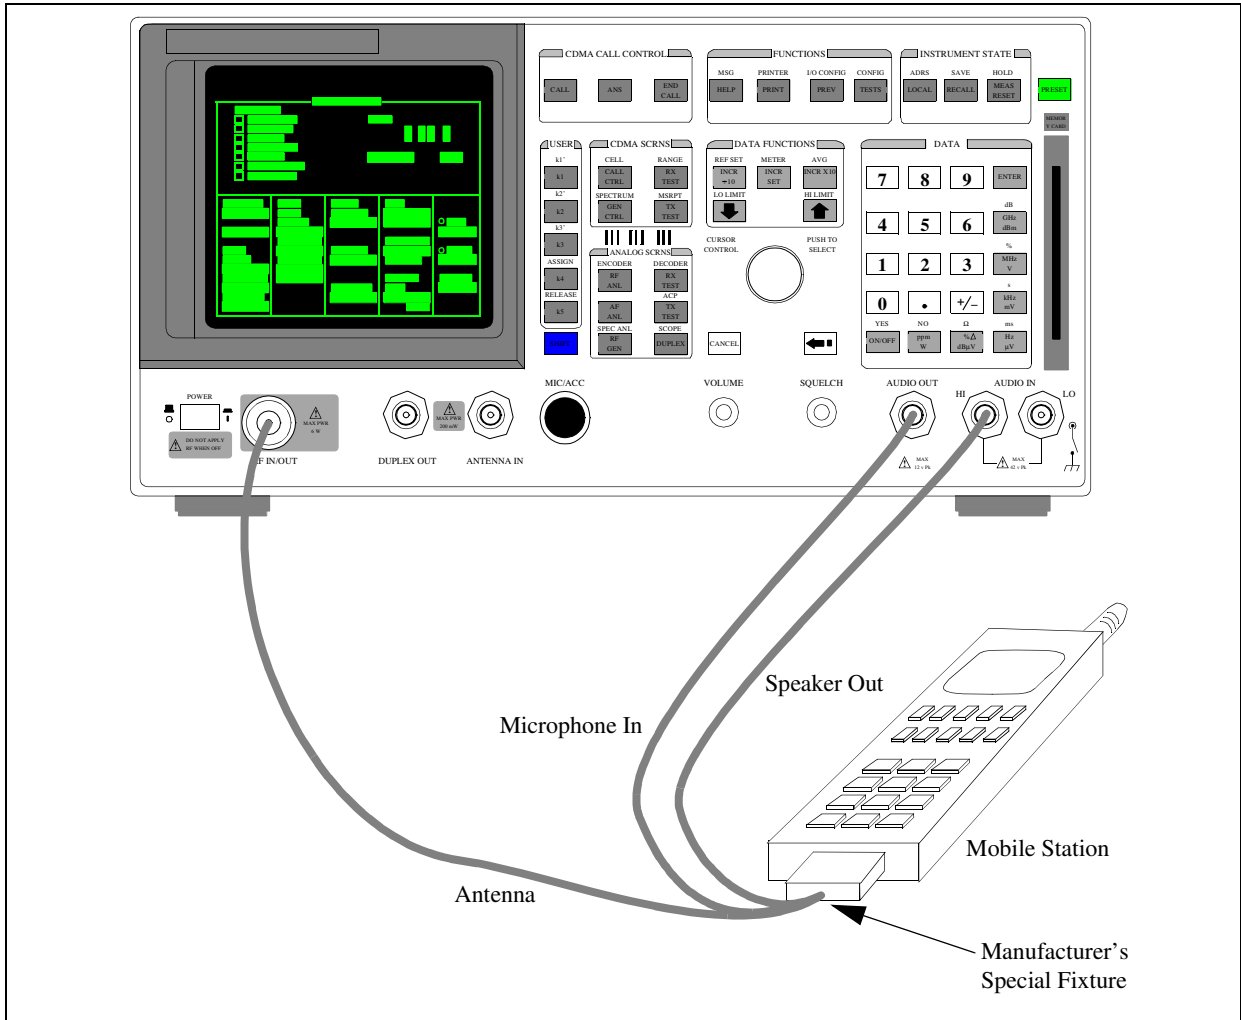

Figure 2 Connecting a Mobile Station to the Test Set
Figure 2, "Connecting a Mobile Station to the Test Set," on page 269 shows a typical example of connecting a mobile station to the Test Set. Many of today's small, handheld mobile stations require special fixtures, available from the mobile station manufacturer, to access the antenna, audio in and audio out on the mobile station.
8. Connect the mobile station to the Test Set as shown in figure 2 on page 269.